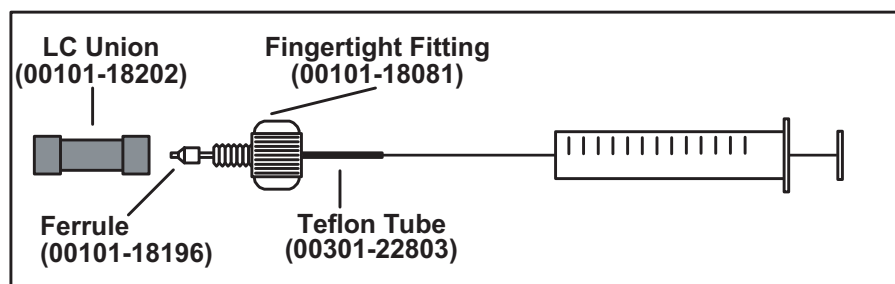

Figure 7-1. APCI/MS plumbing connections for the syringe pump
1. Connect a 4 cm (1.5 in) segment of Teflon tubing with a (brown) fingertight fitting and a (brown) ferrule to the (black) LC union. See Figure 7-1.